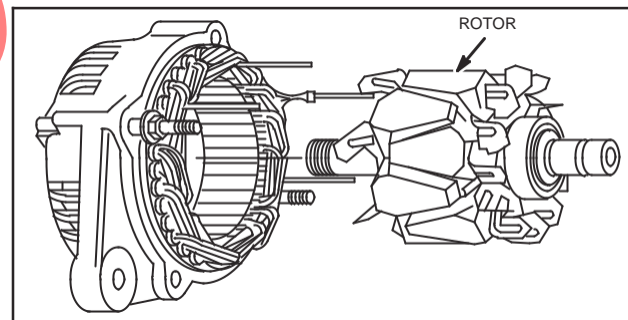

Fig. 28 – Remove Rotor
10. Remove rotor from drive end housing, Fig. 28.